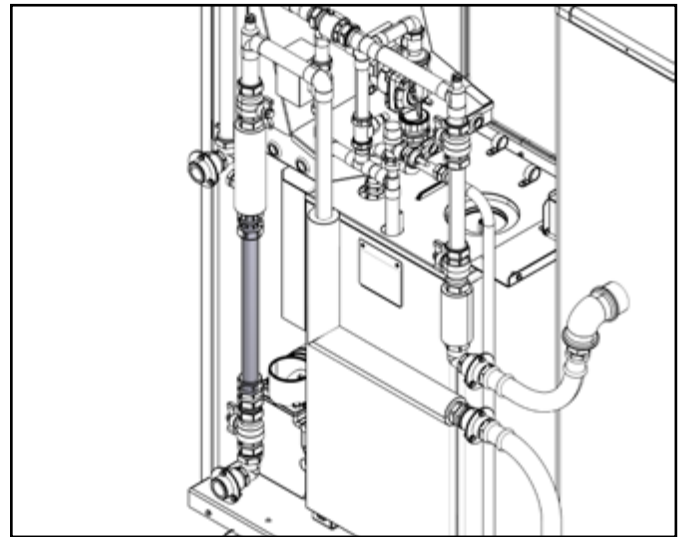

Figure 7-10: Location of removable pipe section
- Unscrew the compression nuts at both the upper and lower ends of the removable pipe section. Refer to Figure 7-10. Carefully lift the upper section of pipe just enough to remove the pipe with the fittings attached at each end.
- Remove the compression nut and olive from the 28mm compression x 1" BSPF fitting (supplied with the heat meter) and connect the fitting to the compression nut (just above the lower isolating valve). Refer to Figure 7-10.
- Repeat steps 3 and 4 above to fit the other 1" BSP threaded tail and union nut (provided with the flow meter) into the vacant upper 1" BSP socket. Refer to Figure 7-10.